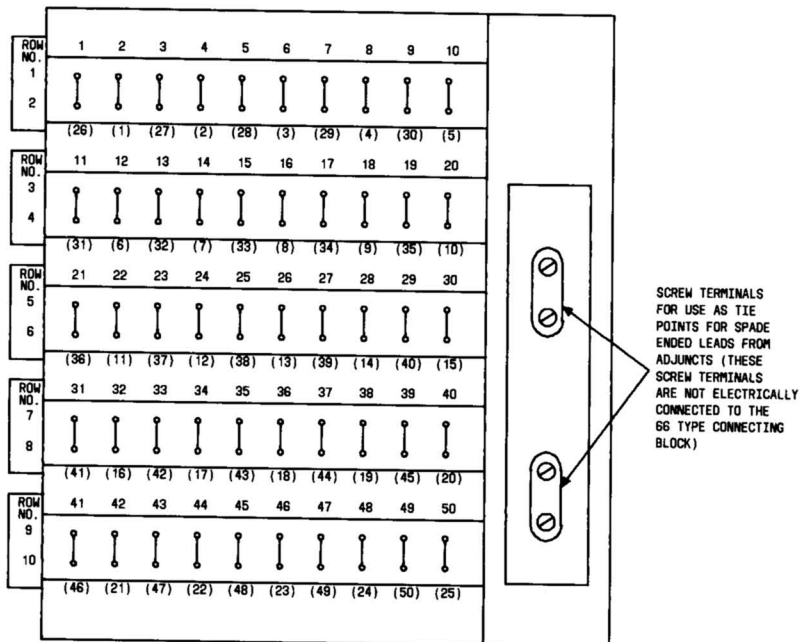

Fig. 7—Numbering and Wiring Plan for 66E8-25 Connecting Block
- (d) Terminate adjunct cord on terminals of connecting block using 161A adapters. Refer to Fig. 7 for block numbering and wiring.
- (e) When adjunct is equipped with spade-tipped leads for power, tie spade tips of adjunct and leads from power source together, using screw terminals of 66E8-25 connecting block (Fig. 7).